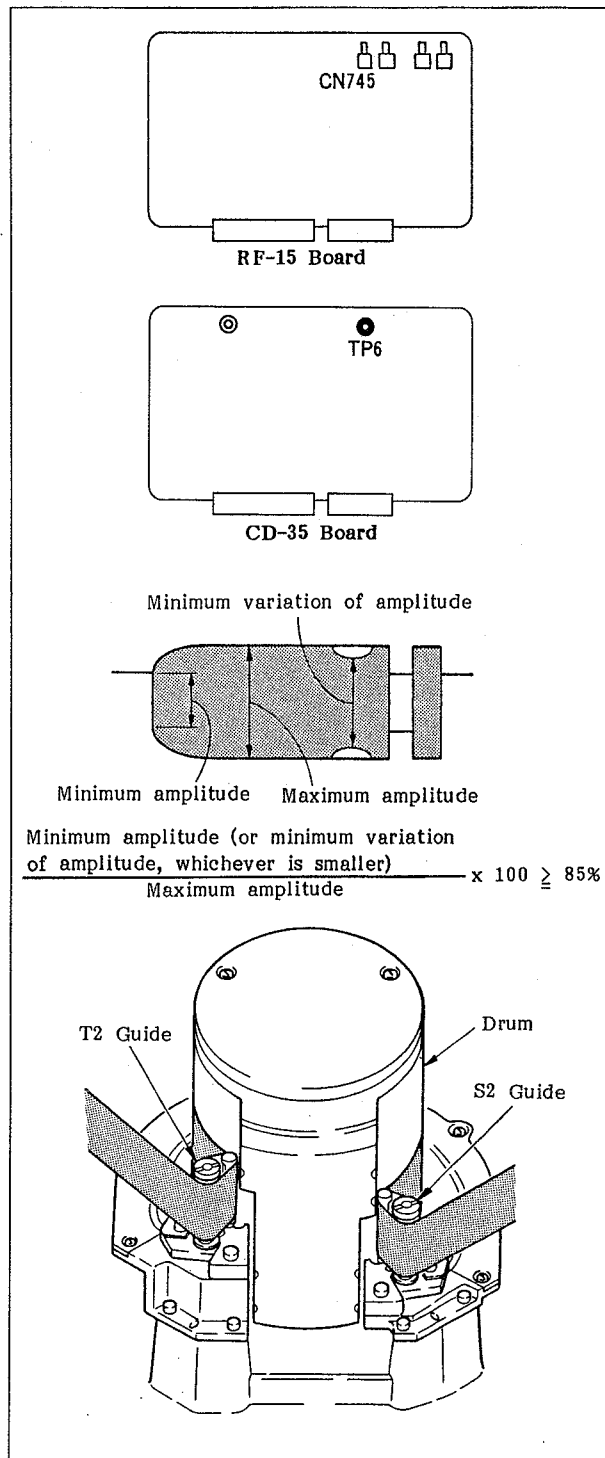

Fig. 9-11 Tracking Check
3. Press the **TEST**, the **F2** (RF) and the **F1** (CONTINUE) keys on the control panel in sequence.
9. Make sure that the RF waveform satisfies the standard shown in Fig. 9-11. If it does not, perform the adjustment section first. Make sure that the upper and lower envelopes of the RF waveform are parallel each other when the tracking knob is turned back and forth. If it does not, perform the tracking adjustment.